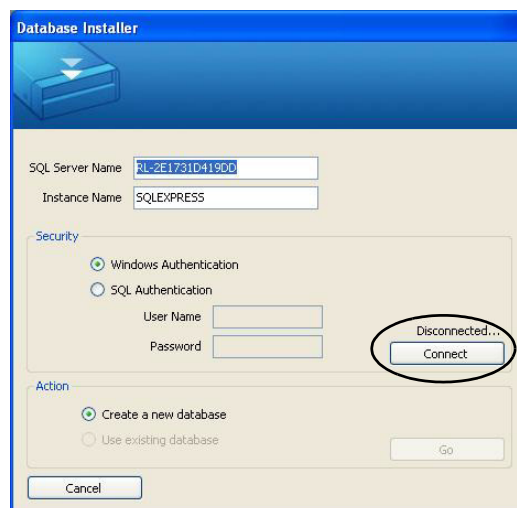

Figure 3. Database Installer screen (disconnected)
- Follow the on-screen steps until you reach the Database Installer shown in Figure 3.